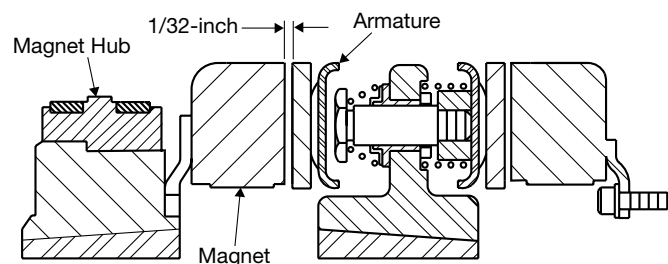

Figure 17
3. Adjust the magnet's position to allow a gap of 1/32 inch between the magnet face and the armature face. (Figure 17)